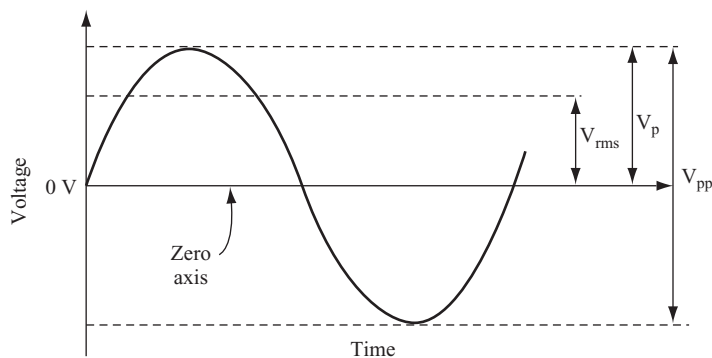

FIGURE 5.3
**3** Figure 5.3 shows some key parameters of sine waves. The two axes are voltage and time.